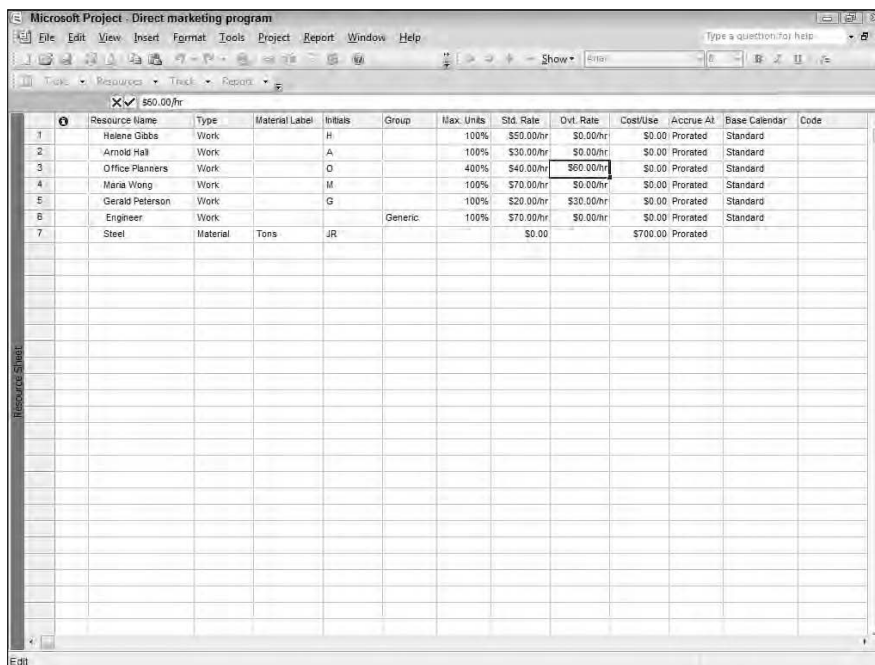

Figure 2-5: Setting the overtime rate for a resource.
3. Type an amount (see Figure 2-5).